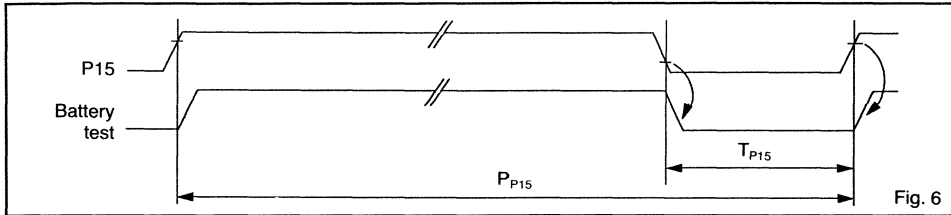

Fig. 6
The battery is tested every 15 minutes by drawing 5 mA of current through a resistor connected to VIN (see Fig. 6 and 11). The test time is 30 ms. During this time the voltage at the BAT pin is compared to the internal voltage reference (VT). If the voltage at the BAT pin is lower than VT, the BF output is taken active high. The average current due to the battery test is 0.17 μA and so is not significant. The resistor should be chosen to suit the particular battery voltage being used.